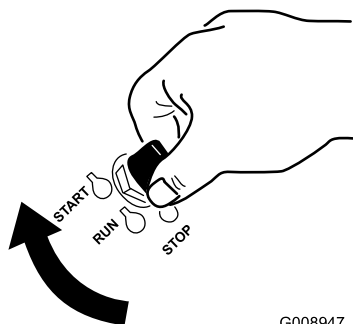

Figure 11
1. Turn the ignition key to the Start position (Figure 11). When the engine starts, release the key.
7. Turn the ignition key to the Start position (Figure 11). When the engine starts, release the key.